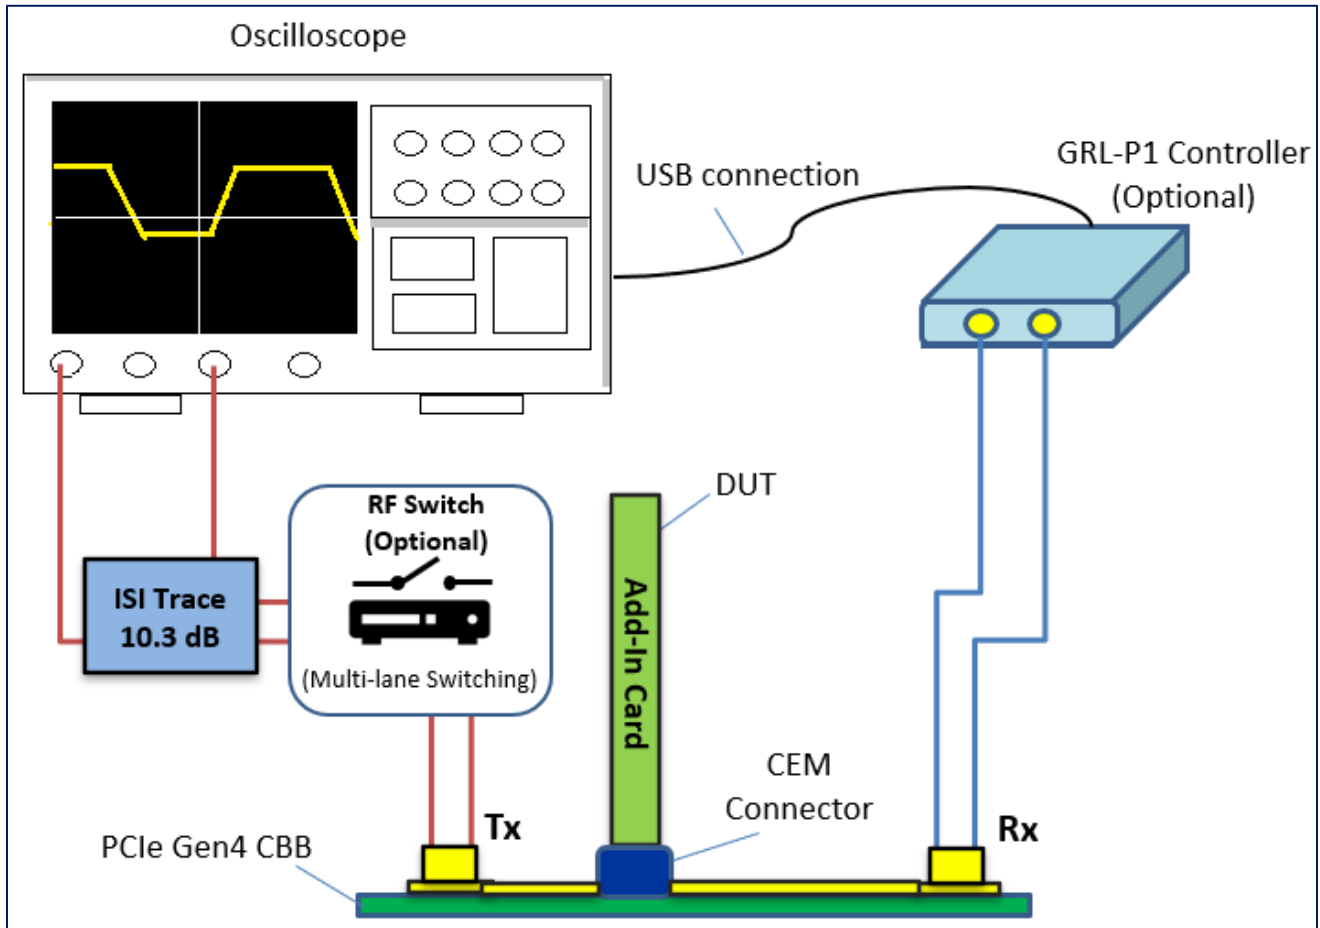

FIGURE 26. CONCEPTUAL PCIe GEN4 ADD-IN CARD TX TEST SETUP DIAGRAM USING GRL-P1 (WITH RF SWITCH AND ISI)
4. If using ISI, connect a 10.3 dB ISI in between the RF Switch outputs and Scope channels (Figure 26 below).